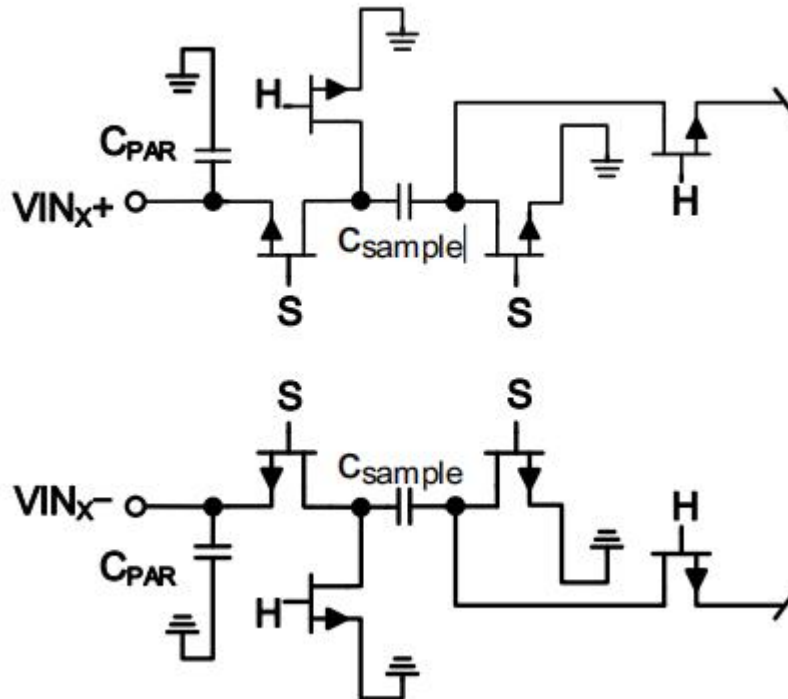

Figure 22 Switched Capacitor Input Circuit
The input circuit switches between the sampling mode and the holding mode according to the clock signal (see Figure 22). When the input circuit switches to the sampling mode, the signal source must be capable of charging the sampling capacitor and completing the establishment within half a clock cycle. A small resistor is connected in series at each input terminal to help reduce the peak transient current injected from the output stage of the driving source. In addition, a low-Q inductor or a ferrite bead can be used on each side of the input terminal to reduce the high differential capacitance at the analog input terminal, thereby achieving the maximum bandwidth of the ADC. When driving the front end of the converter at high and intermediate frequencies (IF), a low-Q inductor or a ferrite bead must be used. A differential capacitor or two single-ended capacitors can be used at the input terminal to provide a matched passive network. This will ultimately form a low-pass filter at the input terminal to limit unwanted broadband noise.